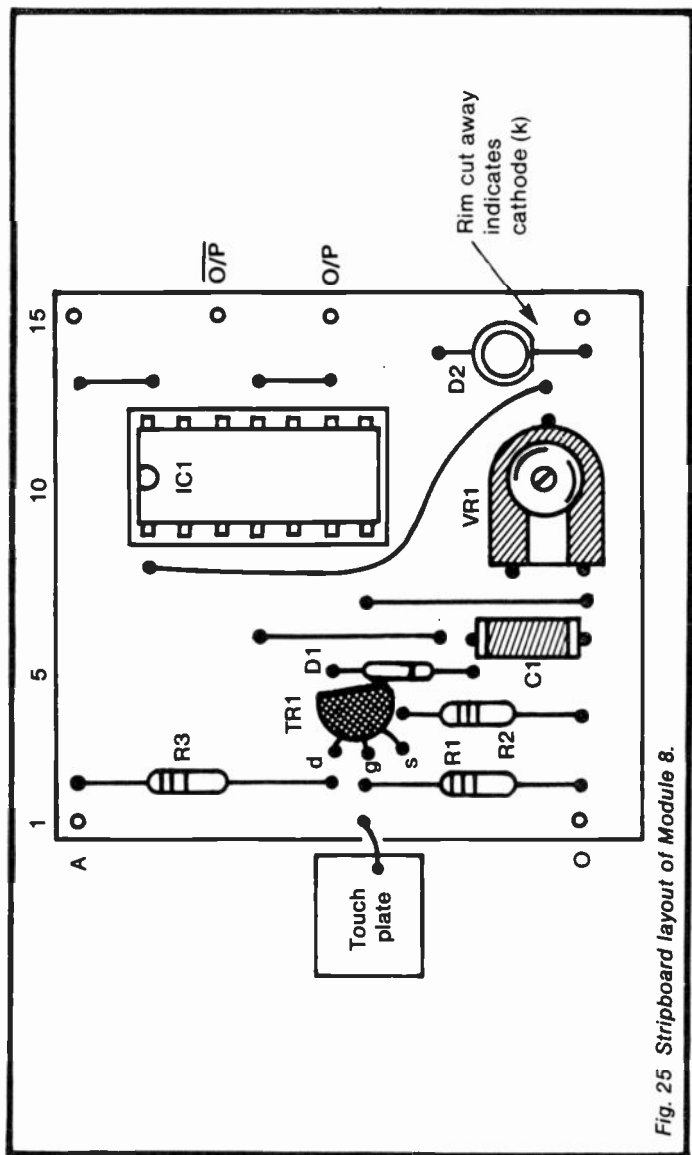

Fig. 25 Stripboard layout of Module 8.
*Stripboard layout:* see Figure 25. Cut strips beneath the board at C10, D10, F10, H10, I6 and I10. Solder blobs join C9 to D9, G9 to H9, D12 to E12, H12 to I12, and L8 to M8. The touch plate is a piece of metal measuring about 2–3cm